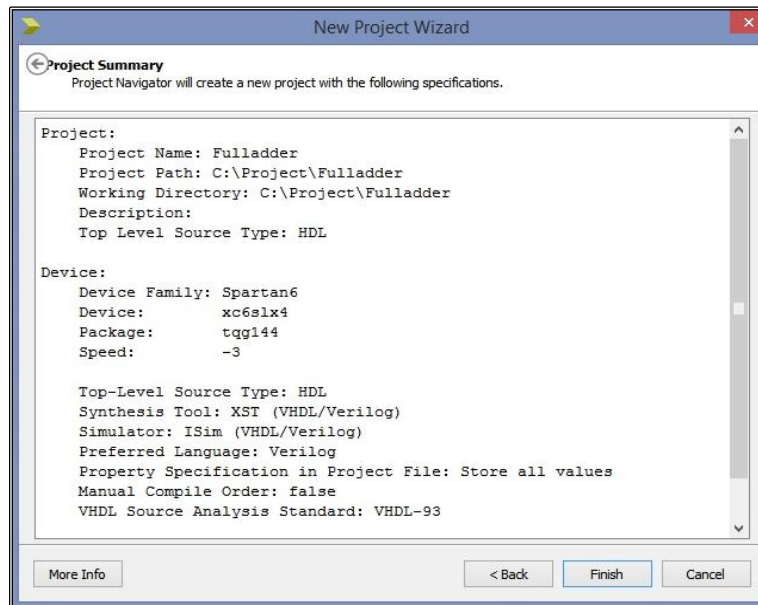

Fig 3.3: Project Summary
4. The **New Project Wizard—Project Summary** page appears as shown in Fig 3.3.